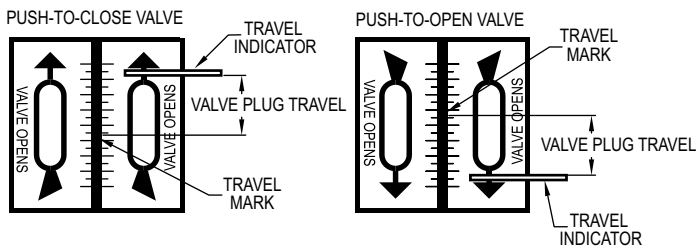

Figure 5: Travel indicator plate showing valve plug travel
When the actuator is completely installed and connected to the control device, it should be checked with normal working line pressure conditions for correct travel. Apply the pressure range listed on the data plate to the actuator. Note that travel indicator should have moved the distance marked on indicator plate, Figure 5.
2. If indicator is not at travel marks on plate, Figure 5, measure distance between indicator and mark.